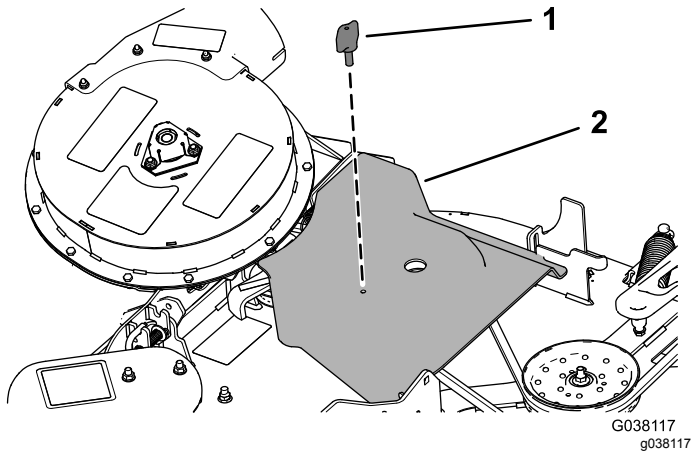

Figure 45
5. Install the blower-belt cover over the blower belt and secure the blower-belt cover with the belt knob (Figure 45).